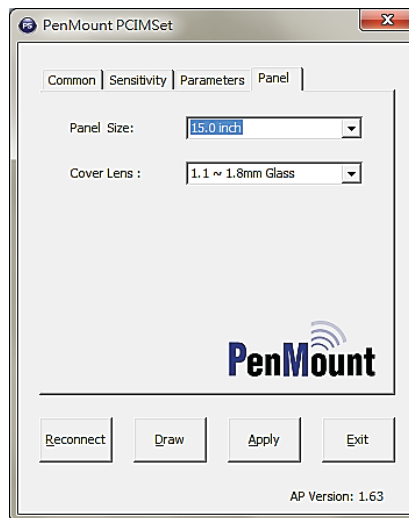

Fig.39
- Panel: Users can modify touch panel size and cover lens thickness in this tab. (Fig.39)